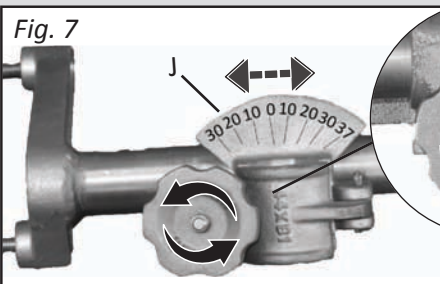

Fig. 7
1. Bevel angle adjustment. (Fig. 7)
B. Adjust bevel indicator (J) to desired angle. (Fig. 7)